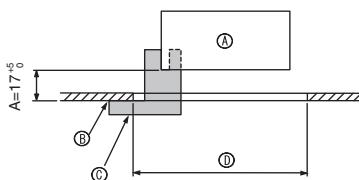
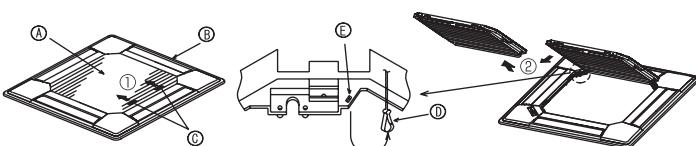
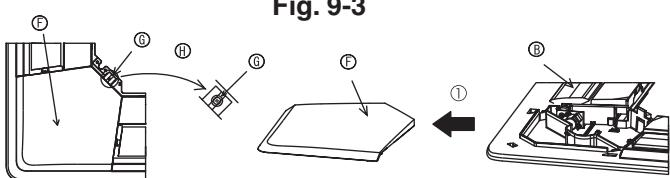

Fig. 9-2
Fig. 9-3
Fig. 9-4
① Grille	1	950 × 950 (mm)
② Screw with captive washer	4	M5 × 0.8 × 25
③ Gauge	1	(Divided into four parts)
④ Fastener	3
⑤ Screw	4	4 × 8
⑥ Screw	1	4 × 12
⑦ Wireless remote controller	1	for PLP-6BALM
⑧ Wired remote controller	1	for PLP-6BAMD
9.2. Preparing to attach the grille (Fig. 9-2)
- With the gauge ③ supplied with this kit, adjust and check the positioning of the unit relative to the ceiling. If the unit is not properly positioned relative to the ceiling, it may allow air leaks or cause condensation to collect.
① Main unit
② Ceiling
③ Gauge ③ (inserted into the unit)
④ Ceiling opening dimensions
9.2.1. Removing the intake grille (Fig. 9-3)
- Slide the levers in the direction indicated by the arrows ① to open the intake grille.
- With the intake grille in the "open" position, remove the hinge of the intake grille from the grille as indicated by the arrows ②.
9.2.2. Removing the corner panel (Fig. 9-4)
- Remove the screw from the corner of the corner panel. Slide the corner panel as indicated by the arrow ① to remove the corner panel.
[Fig.9-3] [Fig.9-4]